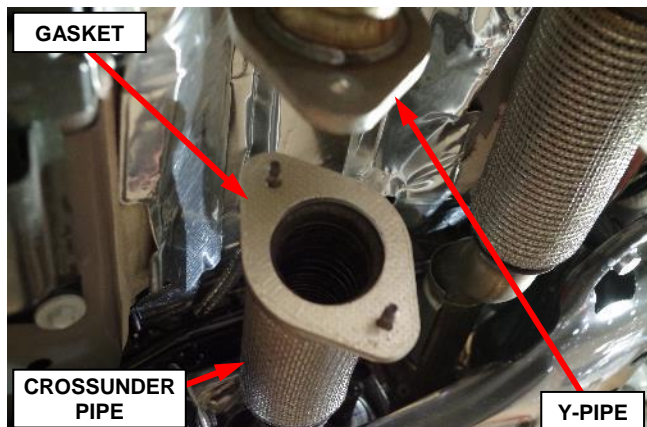

Figure 60 – Y-Pipe
- f. Remove and **DISCARD** the flange gasket between the crossunder pipe to Y-pipe (Figure 60).